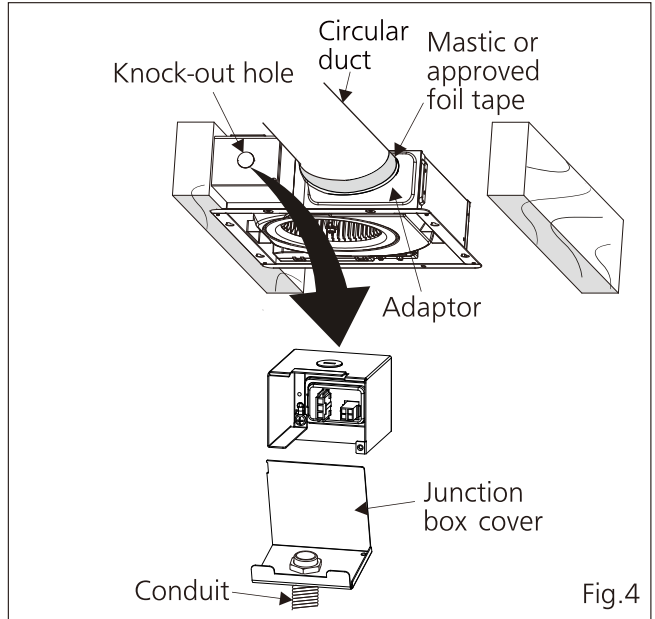

Fig.4
4. A 4 inch circular duct is needed to connect to the relevant part of adaptor. Squeeze a circular exhaust duct to fit the adaptor, then slip it onto adaptor and secure it with clamps, or ties and seal it with mastic or approved foil tape. (Fig.4)
5. Remove junction box cover and secure conduit or stress relief to the opened knock-out hole. (Fig.4)